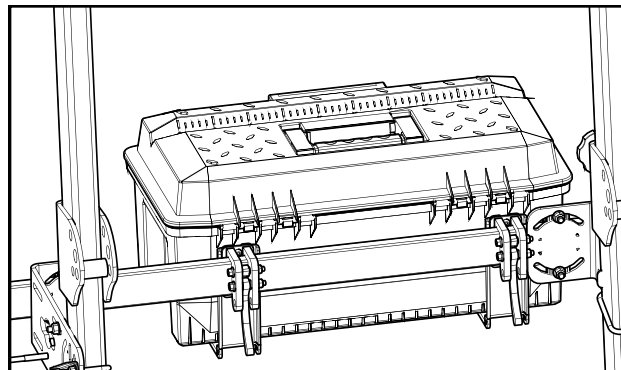

Fig. 1 (attaching a tool box)
1. Figure 1 shows a toolbox installed onto an Artillian ROPS Mounted Tool Bar.